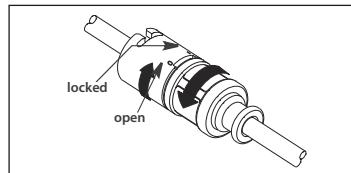

Figure 2
- b. If using a catheter contamination shield with TwistLock™ adapter, ensure double TwistLock of catheter contamination shield is fully opened (refer to Figure 2).